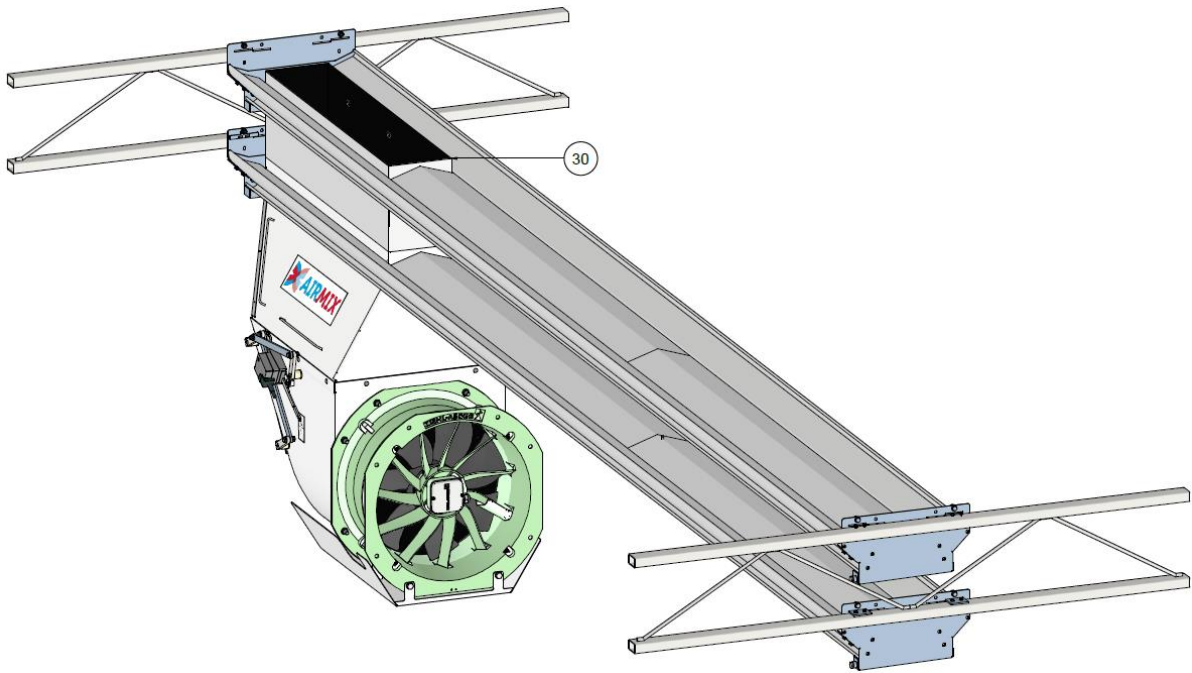

Figure 11 Installing the extension
- For installation, see figures in the chapter "Installing the Airmix model G" and Figure 11;
- Fit a mounting strip (3) with an M6x10 set screw (4) in the groove of the profile (2), the first M8 tapped hole 210mm from the end of the profile; do this for two profiles.
- Insert a plug (20) in the end plate; do this for two end plates;
- Attach an end plate (5) to a lattice (1) with two Slide-in brackets (11). Attach the Slide-in brackets to the end plate with two stainless steel bolts m8x16 (9), four m8 washers (10) and two self-locking nuts m8 (12).
- Put two metal screws with tapping point 4,8x13 (6) through each Slide-in bracket (11) and into the lattice (1);
- Attach a second end plate directly opposite to the first end plate on the next lattice with two metal screws with tapping point 4,8x13 (6);
- Mount a profile (2) between two end plates with six 4.8x16 self-tapping screws (12);
- Fit two cover plates, lying on each other (7), in the profile;
- Place the extension (19) on the Airmix housing (see Figure 11);
- Attach the extension with six M8x16 bolts (10) and six M8 fender washers (9);
- Put the cover plates in position and attach to each other with a metal screws with tapping point 4,8x13 (6);
- Put the profile connector (11) in place, by turning it in the groove of the profiles, under the overlap of the cover plates.